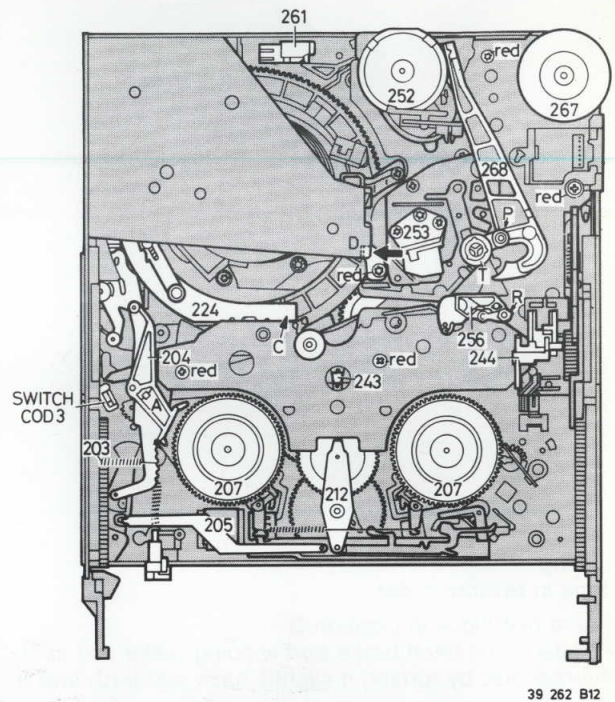

Fig. 3-1-8
- Unhook spring pos. 203 (Fig. 3-1-8).
- Pull away the tape tension lever pos. 204 after unlocking it by A.
- Thread in halfway C (Fig. 3-1-8).
- Unscrew the red fixing screws of the top plate. 4x 'plastite' screws, 1x 'taptite' screw (Fig. 3-1-8).